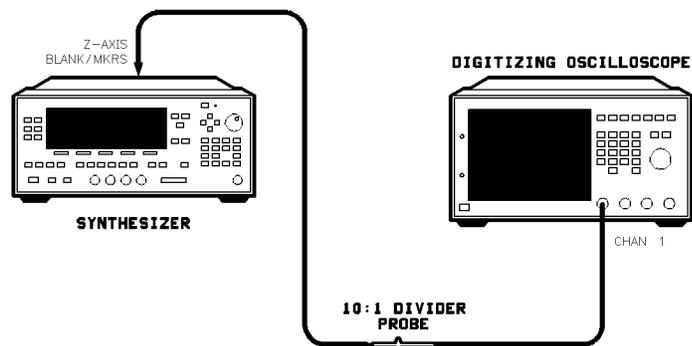

Figure 2-4. Frequency Switching Time Test Setup
1. Connect the equipment as shown in Figure 2-4. Preset both instruments and let them warm up for at least one hour.